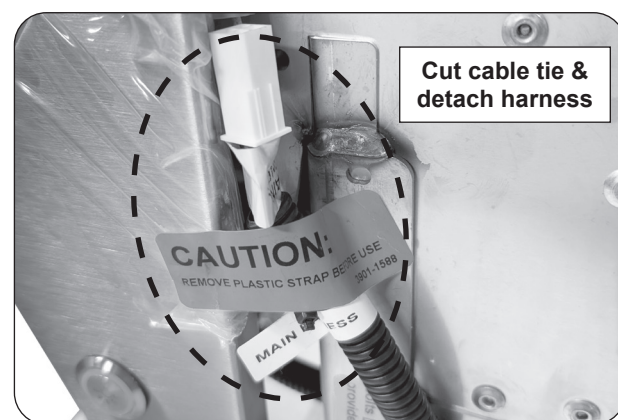

Fig. 27-2 Cut cable-tie
2. Locate the wire harness that is secured to the right side of the control panel (with a cable tie that is labeled for removal). Carefully cut the cable tie and allow the harness to hang freely. See Fig. 27-2.